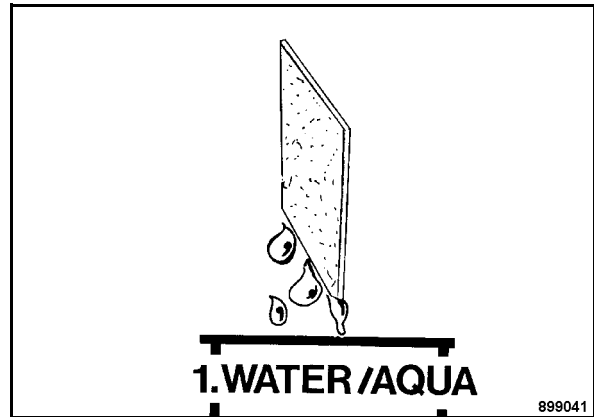

Fig. 71
- Clean the foam filter by moving it to and fro in luke-warm water containing commercial detergent. Then rinse it thoroughly in clear water, shake all water off and let it dry properly (Fig. 71).